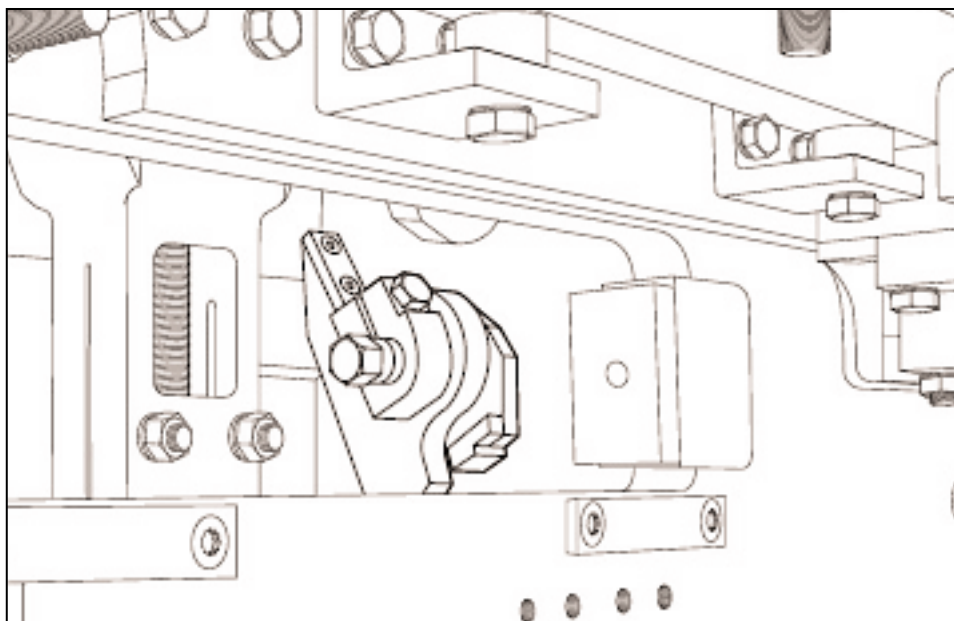

Figure 5.10 MOLD LOCKS IN OPEN POSITION (LEFT LOCK SHOWN).
5.4.8 Open mold locks as shown in figure 5.10 below (one on each side).